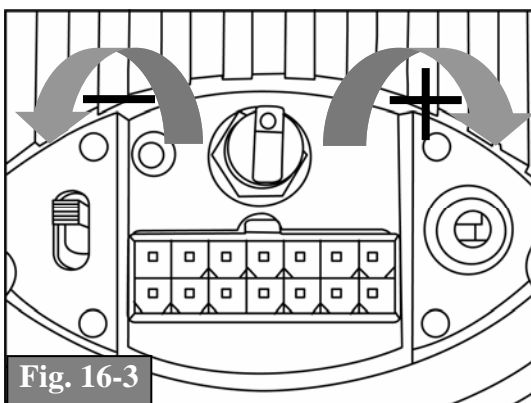

Fig. 16-3
- (d) Tune to a radio station or CD, and adjust volume to a comfortable listening level. (If the sound is distorted, adjust the gain control knob counter-clockwise (-) until the Bazooka Tube produces clean sound. If the unit cannot be heard, adjust the gain control clockwise (+) until sufficient output is achieved.) (Fig. 16-3)